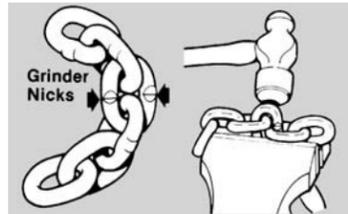

Figure 17. Cutting Chain by nicking
- (1) Use a grinder and nick the link on both sides (Figure 17), then secure the link in a vise and break off with a hammer.
- (2) Use a 7 inch (178mm) minimum diameter by 1/8 inch (3.17mm) thick abrasive wheel (of type recommended by wheel supplier) that will clear adjacent links.